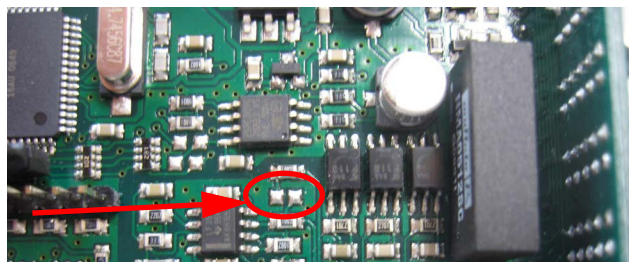

Figure 2-12. Soldered Jumper
- Locate the soldered jumper (SW4), on the circuit board. See Figure 2-12 on page 34.